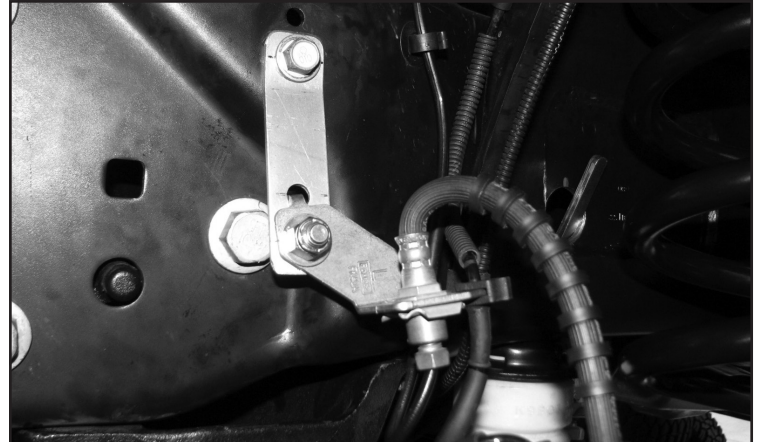

FIGURE 25 - STEP 26
26. **(DRIVER SIDE)** Install FT30659 (Brake line bracket) to the factory brake line tab using the supplied 3/8" x 1-1/4" bolt, nut and washers. Next, install the bracket to the frame using the factory hardware. Torque hardware to 52 ft-lbs. **SEE FIGURE 25**